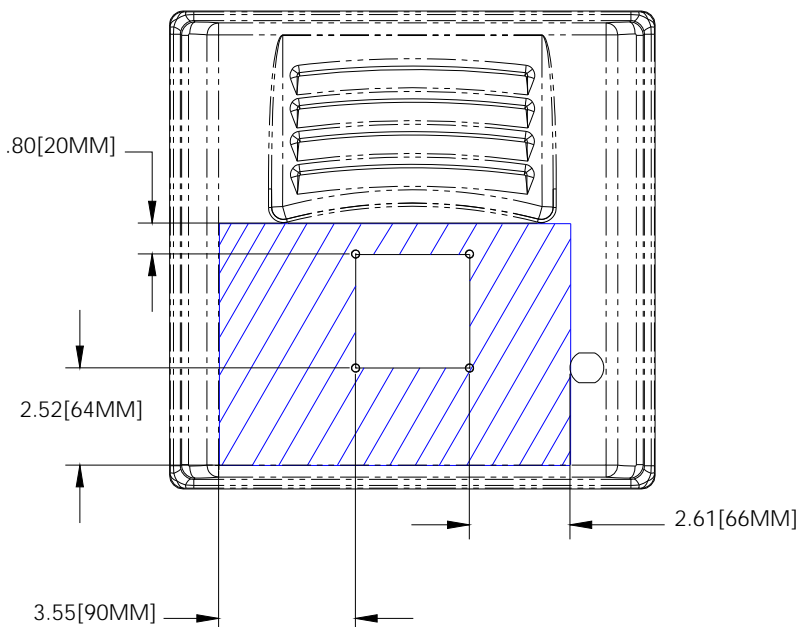

FIG. 35 MB-TP12 Mounting contact surface area
7. Note the available mounting contact surface area on the rear plastic cover of the MB-TP12 (FIG. 35). This area represents the space available for use with a VESA connector plate.